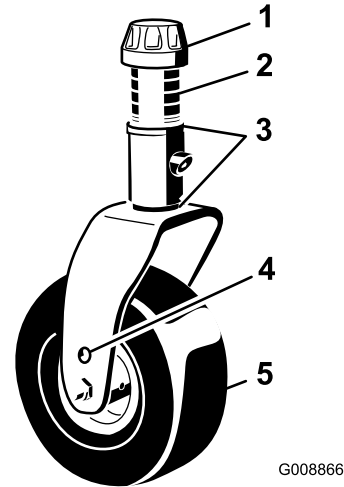

Figure 135
1. Remove the tensioning cap from the caster-spindle shaft and slide the spindle out of the caster arm (Figure 135).
Remove the tensioning cap and caster fork (Figure 135).